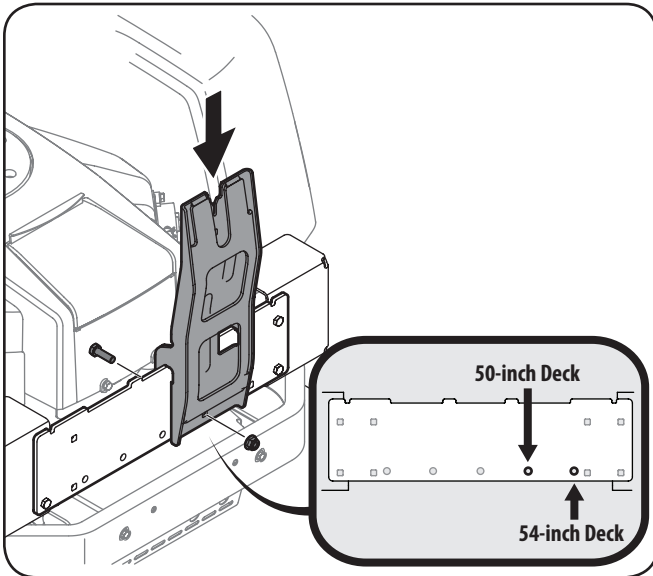

Figure 4-4
4. Install the upright support bracket onto the mounting assembly on the tractor by hooking it over the mounting assembly as shown in Figure 4-4.
- Secure the upright support bracket to the mounting assembly in the mounting hole available for the deck size this bagger is being installed on. See Figure 4-4 for the proper mounting location. Use a 710-0376 hex bolt and 712-04063 flange lock nut from hardware pack 689-00320.